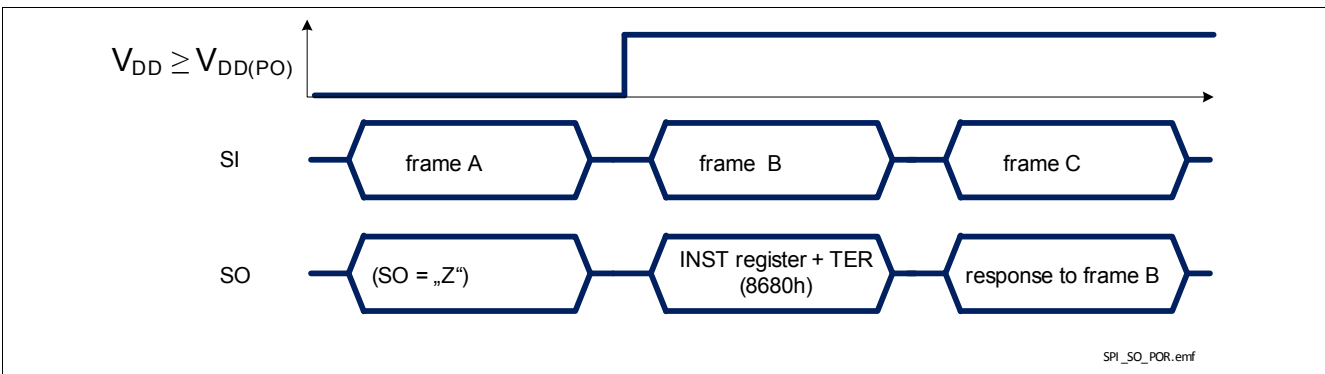

Figure 39 TLE75620-EST response after coming out of Power-On reset at V_{DD}
- when TLE75620-EST logic supply comes out of Power-On reset condition or after a Software Reset, as shown in **Figure 39**